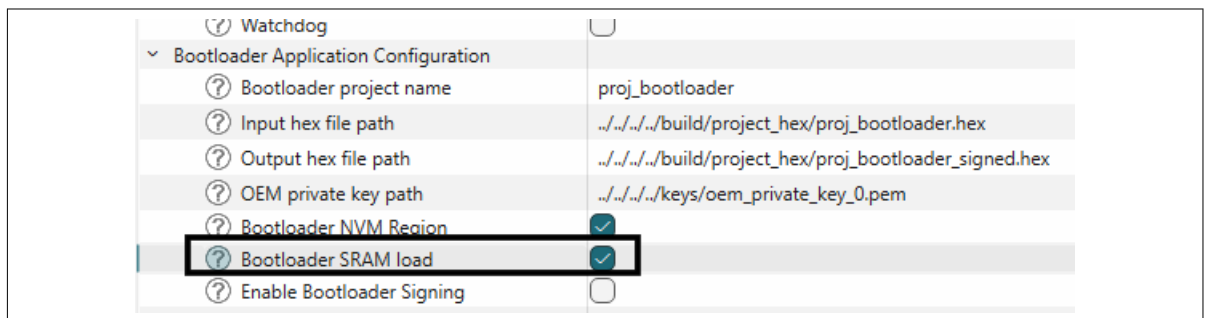

Figure 49 Enable bootloader in SRAM
2. Enable the SRAM loading of the EPB in the bootloader solution as shown in Figure 49